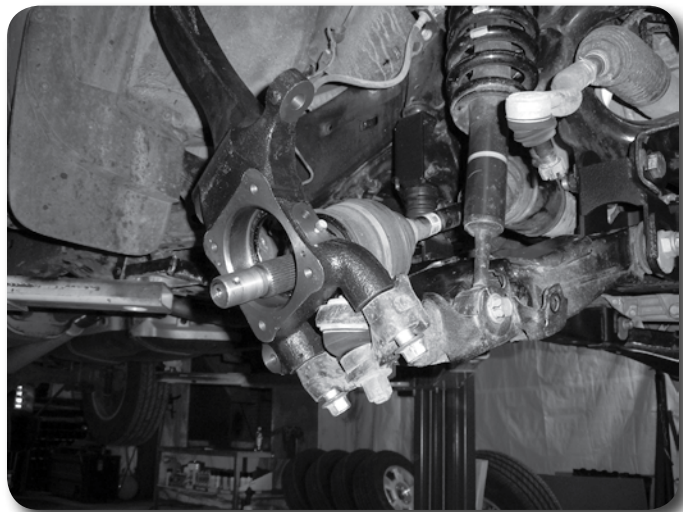

Figure 41
54. Install the new steering knuckles on the appropriate side of the vehicle. Run the CV shaft through the knuckle hub bore and fasten the knuckles to the lower ball joint mount with the original mounting bolts **Figure 41**. Use Loctite on the bolts and torque to 175 ft-lbs.